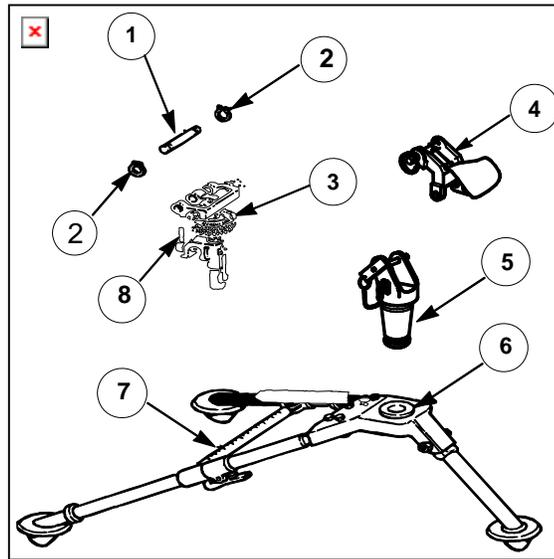

Figure 2
- d. REASSEMBLY: Add the following parts in accordance with subsequent instructions and Figure 2: